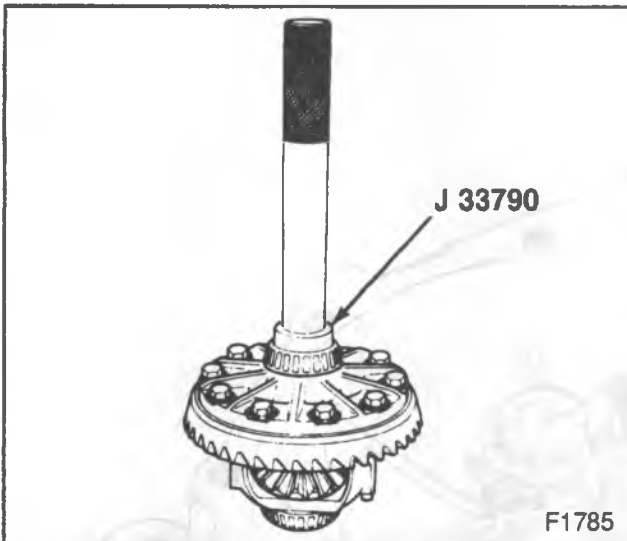

Figure 15—Installing the Differential Side Bearings
- Bolts (34) alternating in progressive steps to 80 N·m (60 ft. lbs.).
7. Side bearings (33), using J 33790 (figure 15).